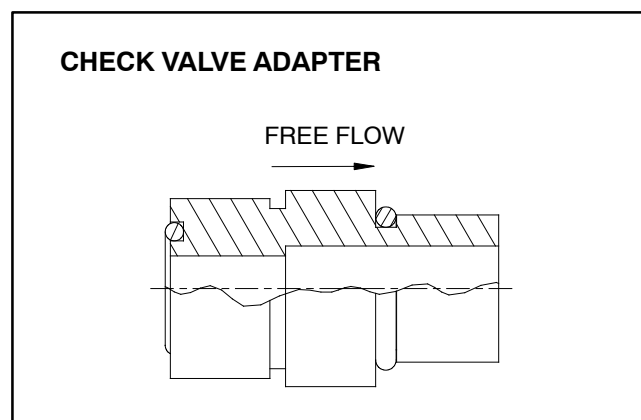

Figure 77
**NOTE:** The check valve adapter used in the HI/LOW range control manifold allows free flow toward the manifold and prevents flow away from the manifold (Fig. 77).